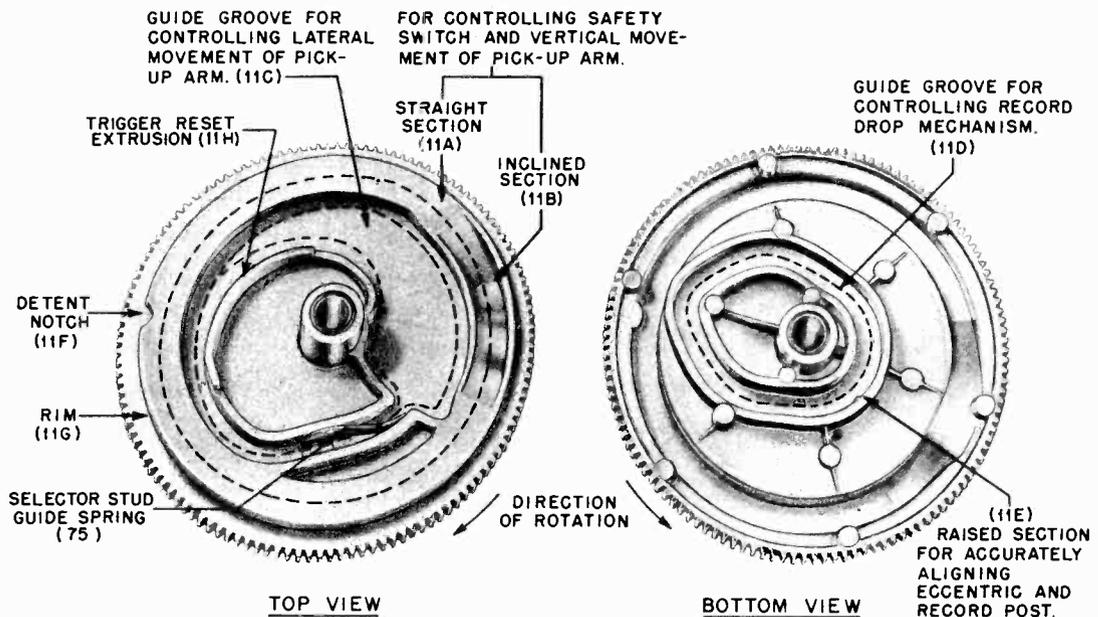

FIGURE 2. CAM WHEEL
**NOTE:** Numbers in parenthesis ( ) refer to parts shown in Figures 2, 3, 4, 5 & 6.
The heart of the record changer is the cam wheel (11). On it are cast all the cams, extrusions, etc., required to perform all the operations during the changing cycle. See Figure 2.